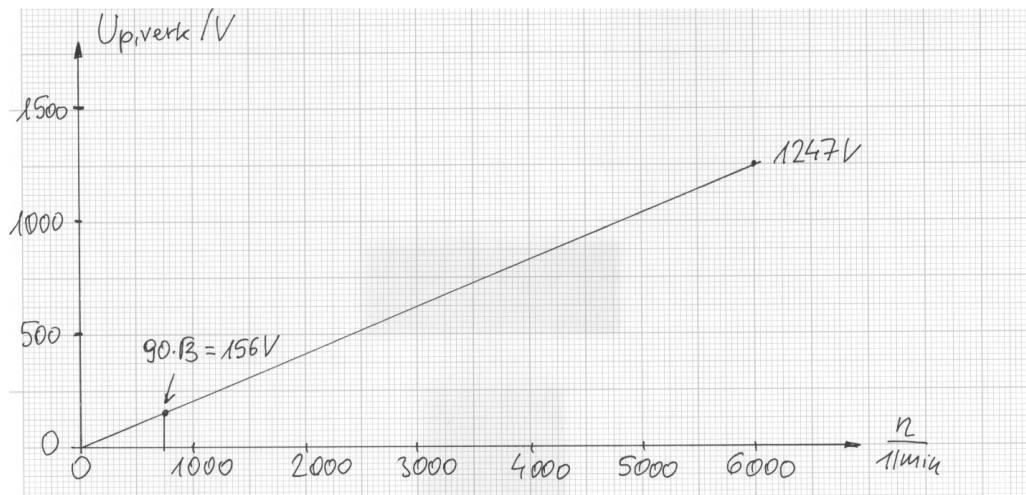

Fig. 3.9-2: Back EMF (r.m.s., line-to-line) versus speed, measured at open circuit, no-load generator operation
Line-to-line voltage (Y): $U_{p,LL} = \sqrt{3} \cdot 720 = 1247 \text{ V} \dots$ Diagram $U_{p,LL}(n)$: Fig. 3.9-2